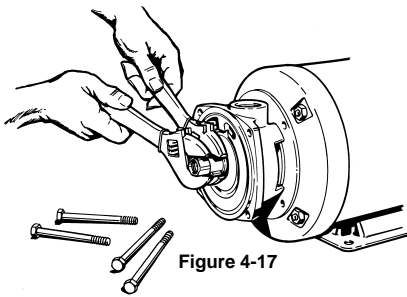

Figure 4-17
- n. Place a second crescent wrench over the nut and tighten in a clockwise direction until it is secured. Refer to Figure 4-17.